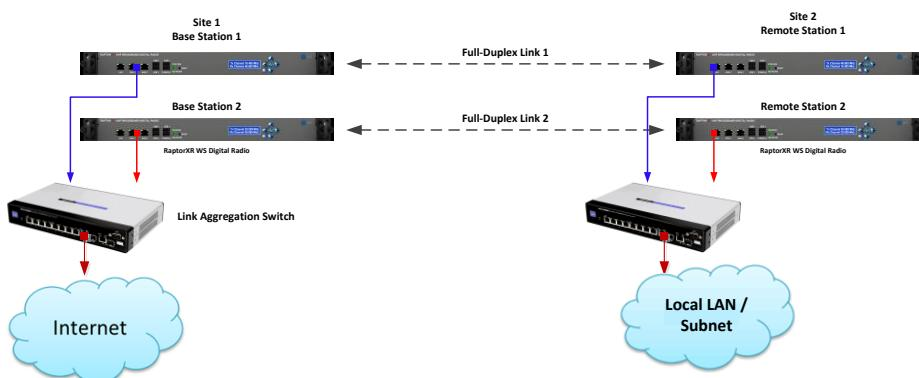

Figure 1.6 Dual Link System
2.4.5.1 Benefits of Dual Link System (See Figure 1.6)